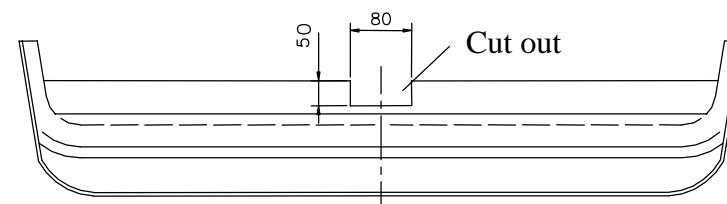

Fig. 2
4. Position the main bar of the towing hitch (pos. 1) to the trunk and fix it with the bracket (pos. 5) through the holes (pos. A) using bolts M10x35mm (pos. 9).
5. Position the sleeves L=58mm (pos. 6) at the bottom of the car, and then fix it through the holes (pos. B) using bolts M10x90mm (pos. 8) and large washers (pos. 10).
6. From the trunk side drill holes  $\phi 1$ mm through the towing hitch holes (pos. C) and fix it using bolts M10x35mm (pos. 9) and large washers (pos. 10).
7. Cut the bumper according to fig. 2 and then reassemble it.